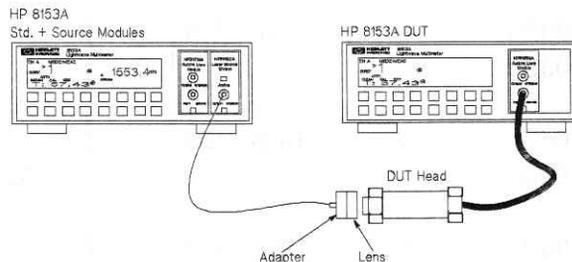

Figure D-2. HP 81525A Linearity Test Test Set-Up
- a. Connect the laser source to the DUT Head as shown in Figure D-2.